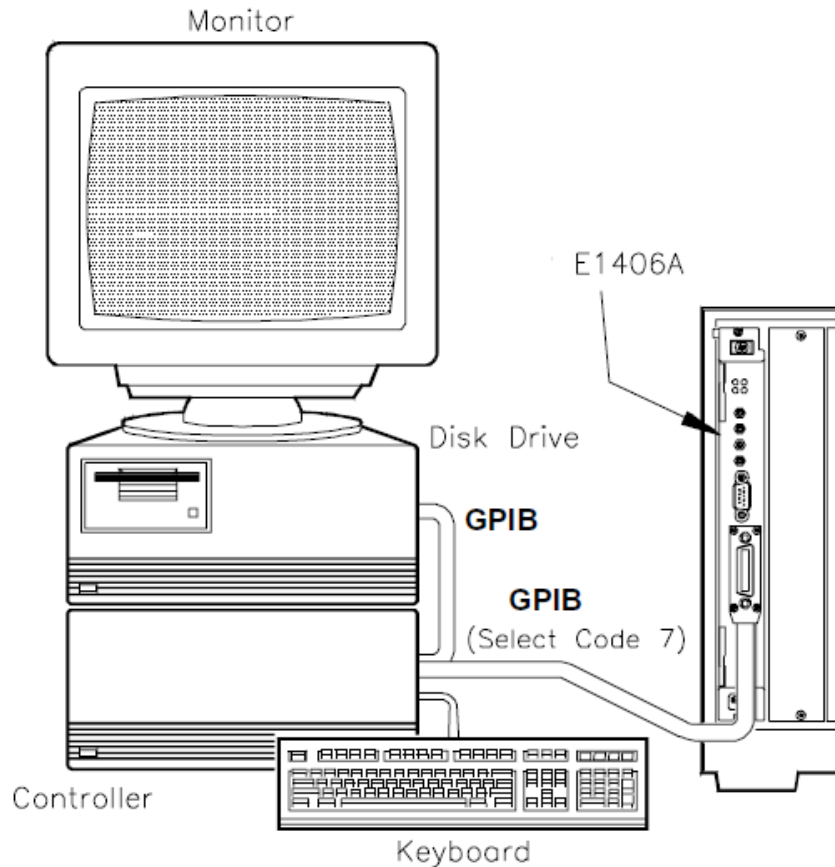

Figure 2-12 Test F-5: Interrupt/Status Info Connection
- Connect computer to Command Module (see Figure 2-12)